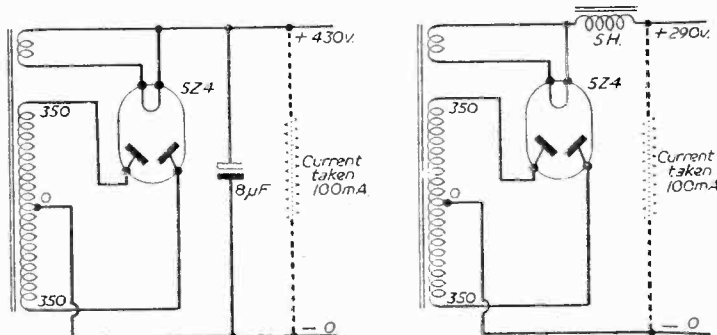

Fig. 2.—Capacitor and choke-filter circuits.
1. A choke-input filter can be used after the rectifier to obtain a better regulation. However, the output voltage in this case will not be as high as with a capacitor input filter. This means that if a high output voltage is required, using a choke-input filter circuit, a fairly large mains transformer will be needed. Fig. 2 shows the two types of circuit with some typical figures to illustrate the above.